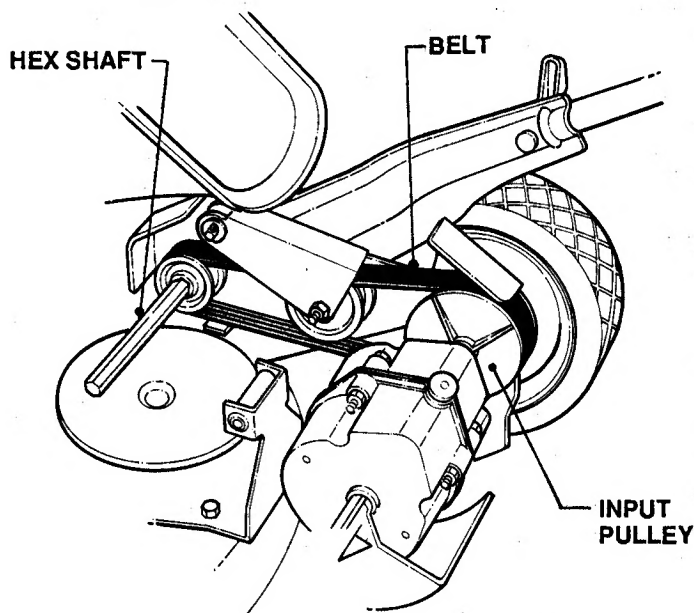

FIGURE 2.8
7. Twist belt sideways and pull it upward between the differential bracket and poly V-input pulley on transmission. See Figure 2.8.